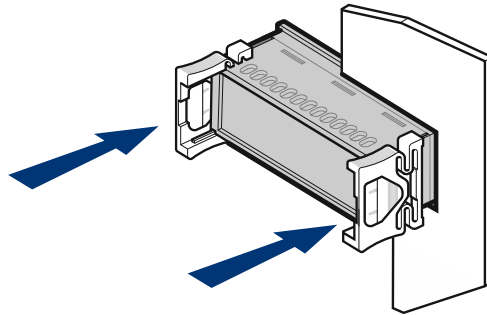

Fig. 5: Installation in the installation section
3. Place both brackets on at the side and push until they reach the stop on the cover and lock into place (see. Fig. 5, „Installation in the installation section“).